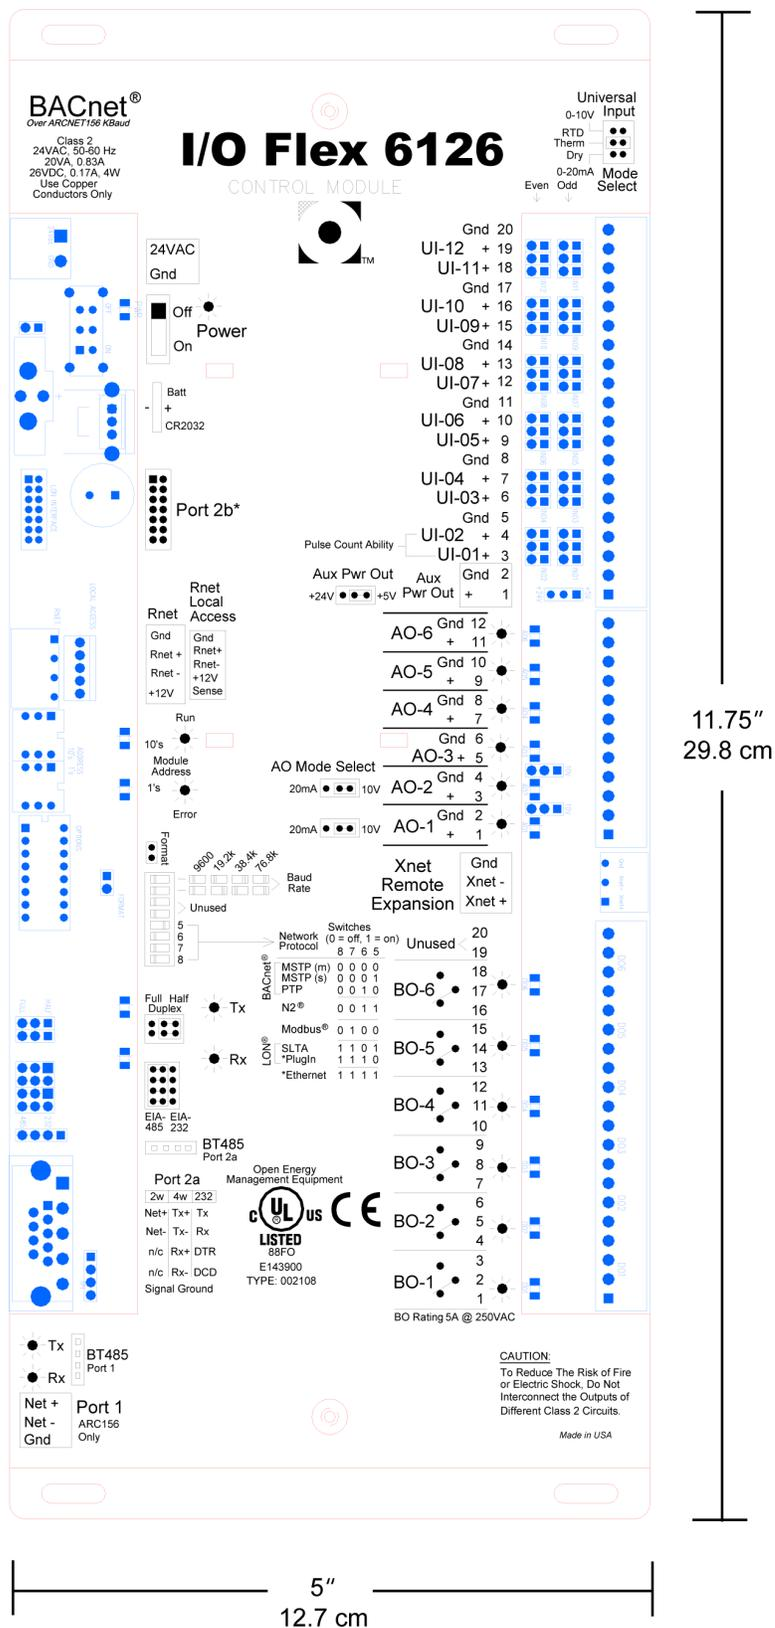

Figure 1. I/O Flex 6126 dimensions and layout - DRAFT
Figure 1 on page 4 details the I/O Flex 6126 hardware.
3. Connect the power wires to the I/O Flex 6126's power connector, making sure the proper polarity is observed for Ground and Hot (24VAC) (see Figure 1 on page 4 for location).